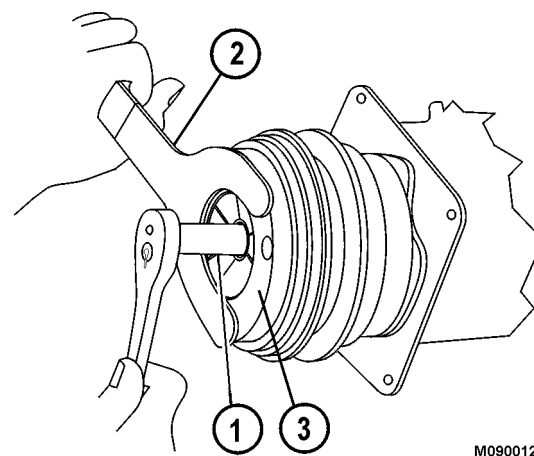

FIGURE 4-18.
3. Remove locknut (4) using thin wall socket (1, Figure 4-18) or the equivalent. Use clutch hub holding tool (2), spanner wrench (J-9403), or the equivalent to hold clutch hub (3) while removing the locknut. It is recommended that the locknut be replaced after it has been removed.